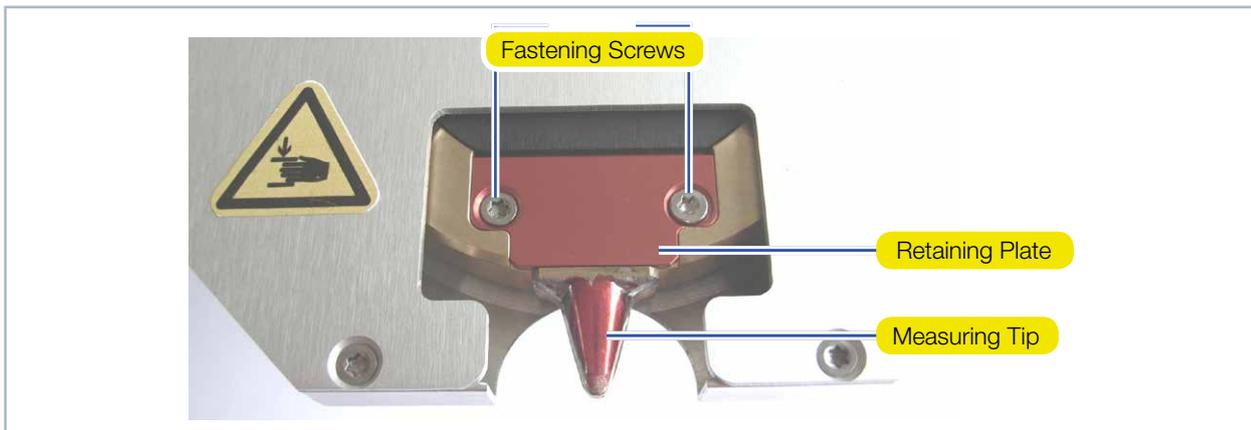

Fig. 18.1: Measuring, view from below
4. Remove the fastening screws of the retaining plate (Torx T8) (see Fig. 18.1 on page 52).